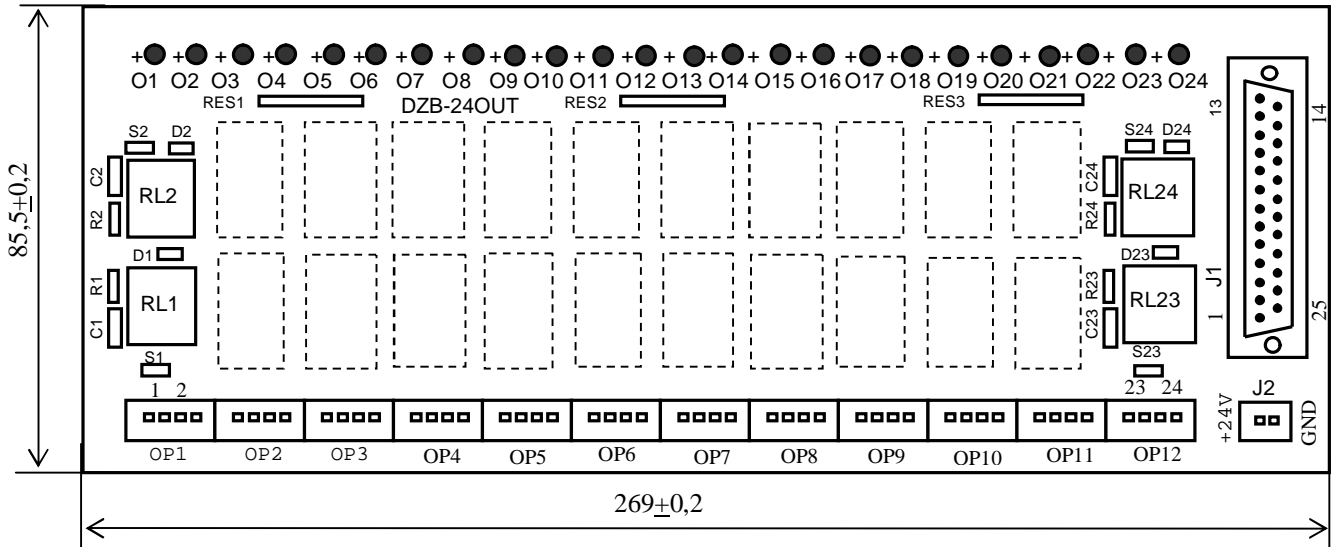

Figure D.3
10.4.4.1 The external view of the NC210-401 module is presented in Figure D.3. The module height is 56 mm max. The module can be mounted onto a DIN-strip.